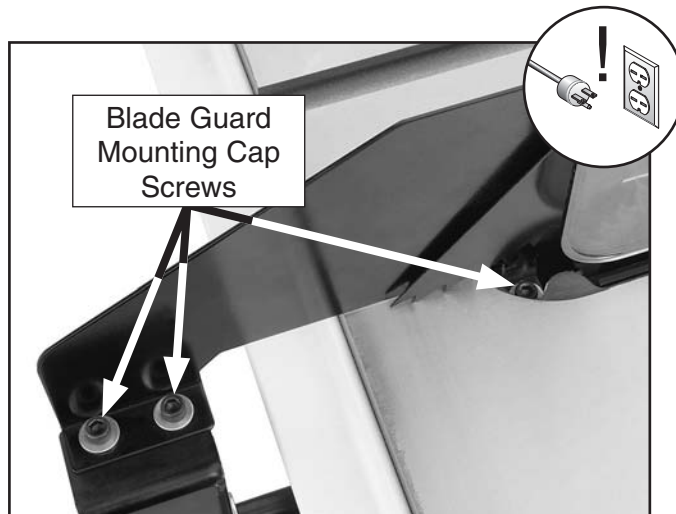

Figure 15. Blade guard mounting cap screws.
3. Loosely bolt the blade guard/splitter assembly onto the blade guard mounting bracket with the 1/4"-20 cap screws, washers, and hex nuts (**Figure 15**).